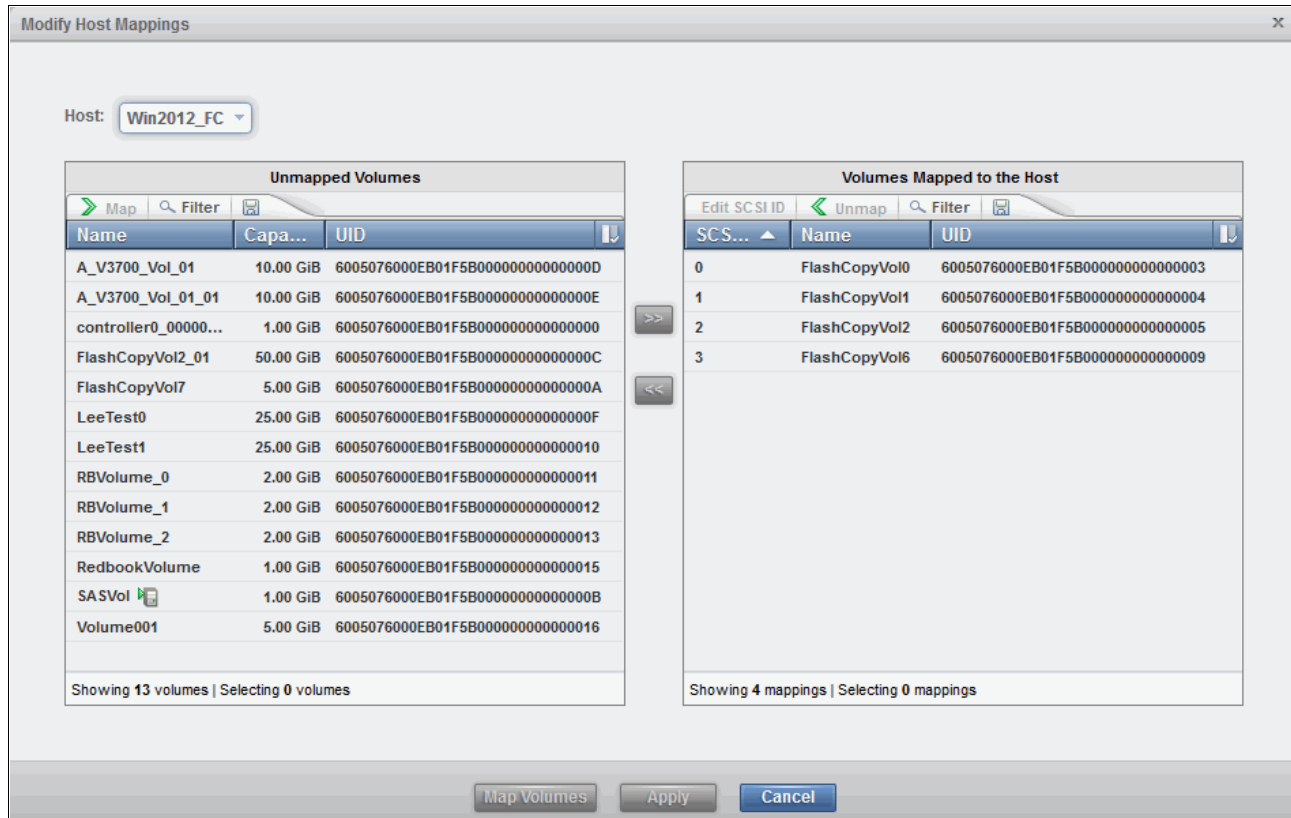

Figure 8-4 Host mappings pane
1. From the Host pane, after selecting a host and opening the Actions menu, select **Modify Mappings** to open the Modify Host Mappings pane, as shown in Figure 8-4.
The left pane (Unmapped Volumes) shows the volumes that are available for mapping to the chosen host. The right pane (Volumes Mapped to the Host) shows the volumes that are already mapped. Figure 8-4 shows that the volumes named FlashCopyVol0, FlashCopyVol1, FlashCopyVol2, and FlashCopyVol6 with Small Computer System Interface (SCSI) ID's 0, 1, 2, and 3 are mapped to the Win2012_FC host. The left pane shows that a further 13 volumes are available for mapping.